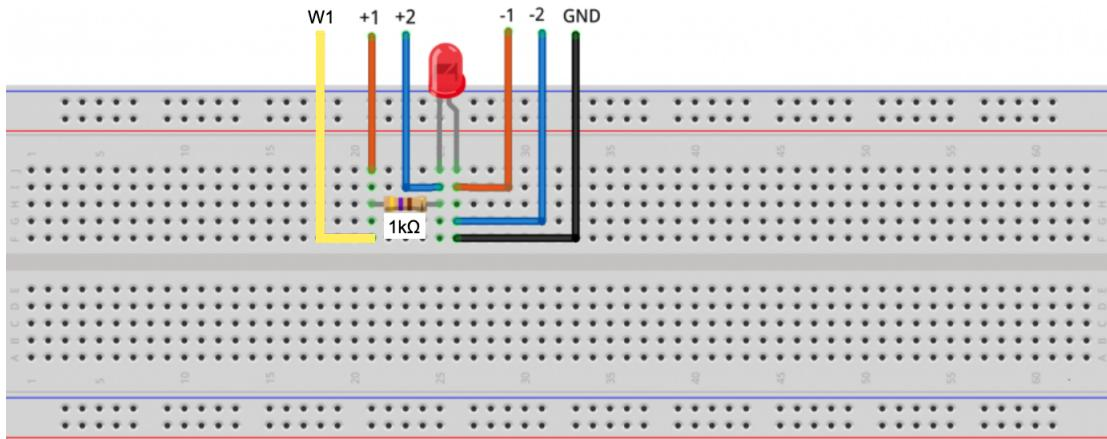

Figure 3: circuit on breadboard
- The circuit should look like Figure 3: